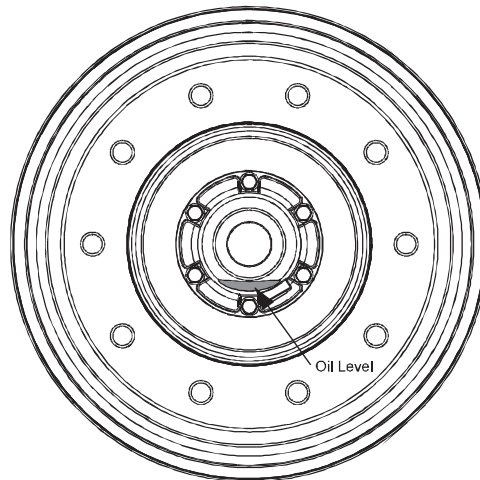

Figure 5 – Wheel Bearing Oil Level
2. Check oil level through hub cap window. If level is below the "add" level line then remove the pipe plug and fill with recommended oil until "full" level is achieved. (**Figure 5**). Add oil slowly since the heavy weight oil will settle slowly in the hub. Check only after coach has been at rest for at least 15 minutes. If coach has been moved oil may be distributed around cavity and in bearings resulting in a false low measurement.